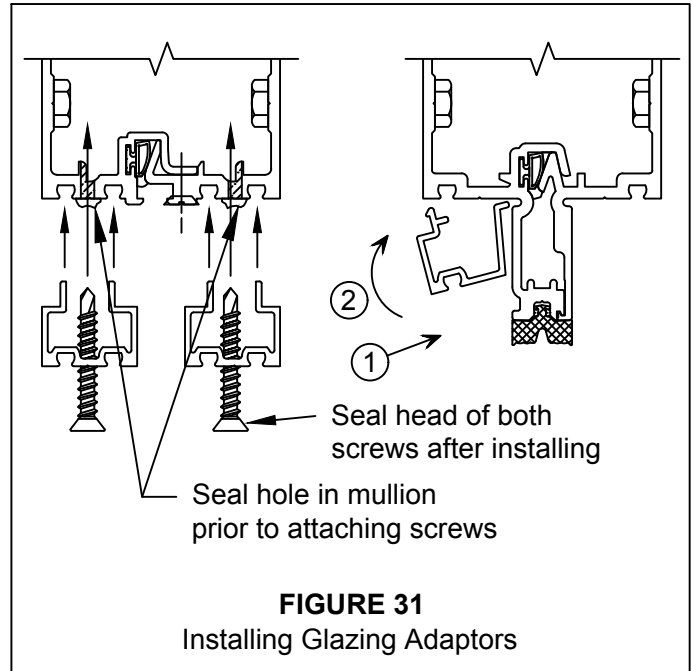

FIGURE 31
A.1 Install vertical adaptors first, leaving an equal overlap into each pocket. For captured verticals and all horizontals, insert the leg into the vertical reveal, then snap the hook side into the glazing reglet. **SEE FIGURE 31.** Refer to **VERTICAL SPLICING, page 30,** if vertical mullion is spliced within a spandrel lite. Transition adaptors must be installed after mullion splice is sealed.
A.2 For SSG mullions, install adaptor legs into the mullion glazing reglets. Secure to mullion with FS-119 #10 x 1 3/8" Phillips Flat Head screw 3" from the ends and 12" O.C. Cap seal screws. **SEE FIGURE 31.**